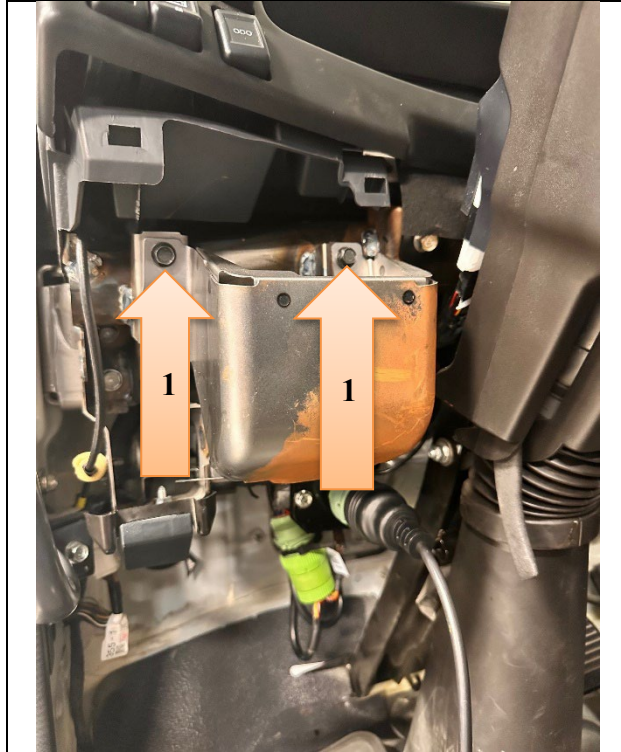

Figure 48
48. Remove the two (2) 10mm bolts and remove the knee bracket. (See Figure 48.)